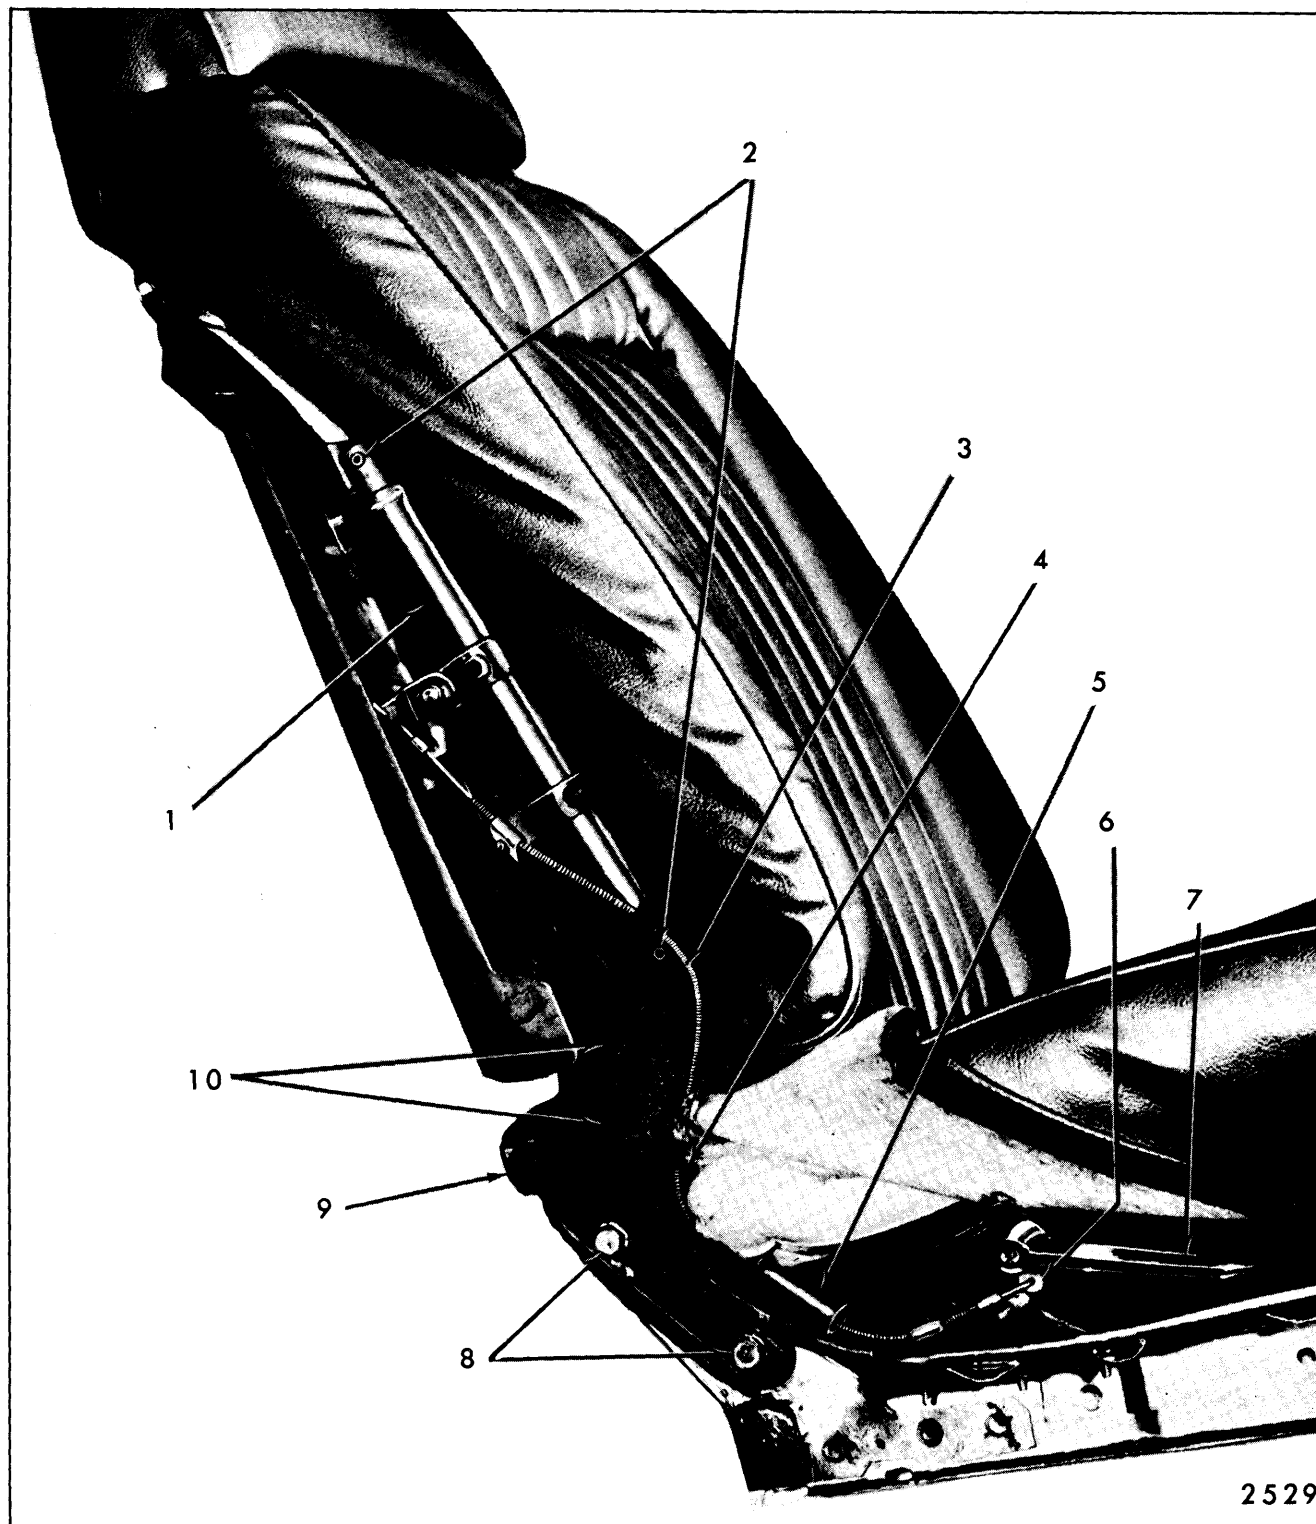

Fig. 15-56—Reclining Seat Back and Positioning Unit
2. On right side of seat with seat side panel removed, remove hog rings securing cushion trim at rear of seat and along bottom of seat and turn back trim sufficiently to expose seat back attaching bolts and reclining control cable attachment at handle control lever (Fig. 15-56).
3. Detach reclining positioning unit control cable from handle control lever; then, pull control cable through cable guide and through grommet in cushion trim (Fig. 15-56).
5. To install seat back assembly, reverse removal procedure. Make certain side panel support (Fig. 15-56) is secured under seat back outer attaching bolts.
2. On right side of seat with seat cushion side panel removed, remove hog rings securing cushion trim at rear of seat and along bottom of seat and turn back trim sufficiently to expose reclining control cable attachment at handle control lever (Fig. 15-56).
4. Remove hog rings securing right side of seat back trim to seat back frame and turn trim forward sufficiently to expose positioning unit (Fig. 15-56).
5. Detach reclining positioning unit control cable from handle control lever; then, pull control cable through cable guide and through grommet in cushion trim (Fig. 15-56).
6. Using a suitable size drift punch, carefully drive out roll pins securing positioning unit to support on seat back frame and to seat back hinge (Fig. 15-56); then remove positioning unit from seat back.